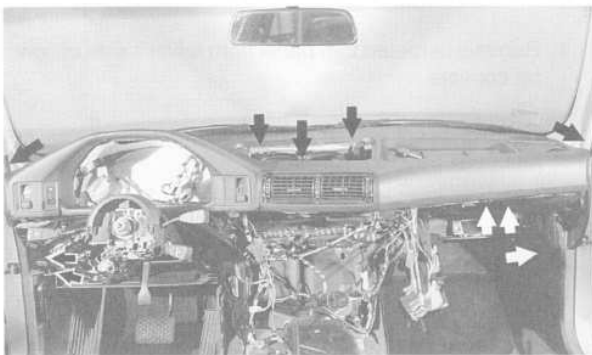

Fig. 7. Instrument panel mounting screws (arrows).
10. Remove instrument panel mounting screws. See Fig. 7.